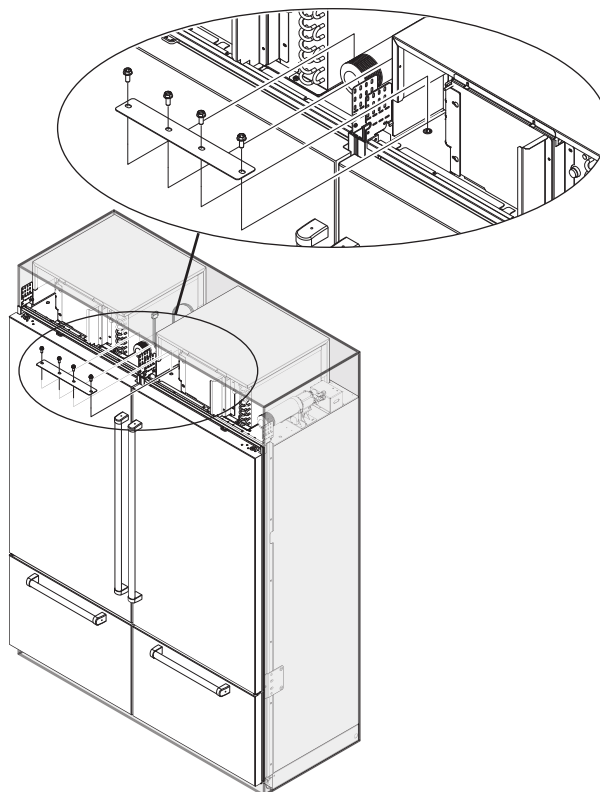

Figure 10. Join Units Together at Top
1. Working the Dual Installation Top Bracket in from the side, line the holes of the top bracket up with the threaded inserts at the top adjoining corners of the appliances (See Figure 10).
2. Insert four 5/16-18 X 3/4" Tensilock Bolts down through the bracket into the threaded inserts and tighten the bolts (See Figure 10).